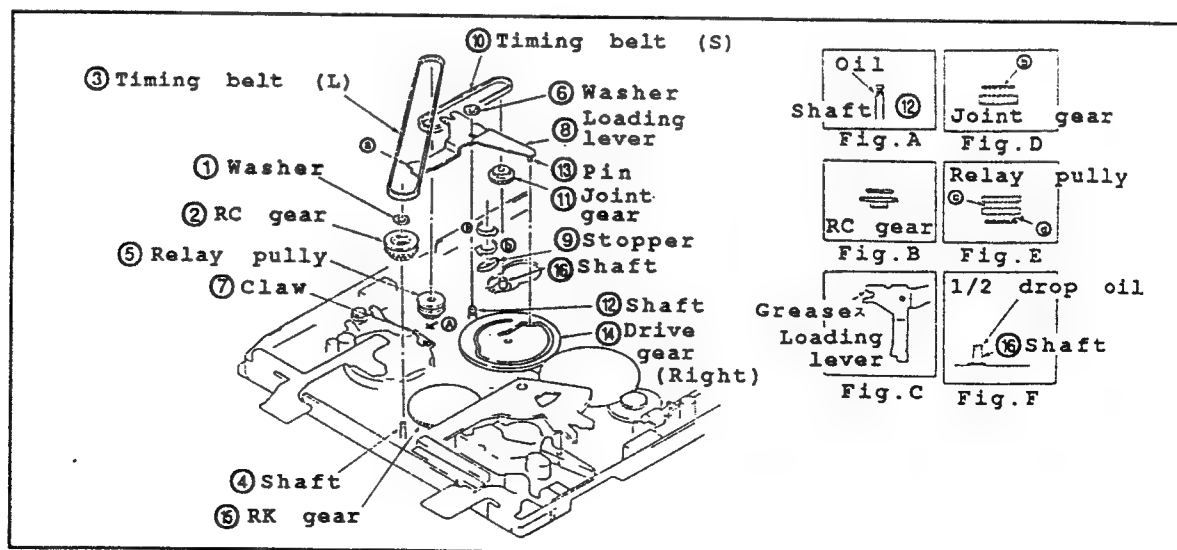

Fig.II-21
• Disassembling (Fig.II-21)
- (1) Set unloading state
- (2) In the same procedures in "3-3", dismount the capstan motor.
- (3) In the same procedures in "3-13", detach the pinch sub arm.
- (4) Remove the washer ①. Then dismount the RC gear ② (with the timing belt (L) ③ hooked) from the shaft ④.
- (5) Remove the washer ⑥. Then, detach the loading lever ⑧ while pushing the claw ⑦ toward the direction A.
- (6) Turn the stopper ⑨ toward the direction B by 90°.
- (7) Detach the joint gear ⑪ (with the timing belt(S) ⑩ hooked) from the shaft ⑫.
- (8) Separate the timing belt(S) ⑩ from the relay pulley ⑤.
*Note: When dismounting the gear ⑪, do not touch the flange b part. (Fig.D)
• Reassembling (Fig.II-21)
- (1) Apply 1/2 drop of oil to the shaft ⑫. (Fig.F)
- (2) Hook the timing belt(S) ⑩ to the joint gear ⑪, and then to the gear d of relay pulley ⑤ (Fig.E).
- (3) Attach the joint gear ⑪ to the shaft ⑫ with the timing belt(S) ⑩ attached.
- (4) Turn the stopper ⑨ toward the C direction until it comes to an end.
- (5) Apply 1/2 drop of oil to the shaft ⑫. (Fig.A)
- (6) Insert the loading lever ⑧ into the shaft ⑫. Then, match the a part with the claw ⑦ and insert the pin ⑬ into the groove of drive gear (right) ⑭.
- (7) Secure the washer ⑥.
- (8) Hook the timing belt(L) ③ to the gear as indicated in the Fig.B, and to the gear c of the relay pulley ⑤. (Fig.E)
- (9) Mount the RC gear ② to the shaft ④ (with the timing belt(L) ③ attached). Then, mesh it with the RK gear ⑮.
- (10) Secure the washer ①.